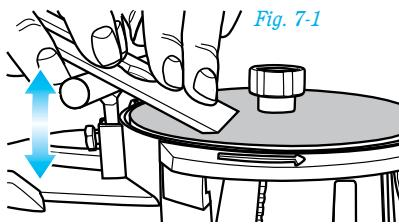

Fig. 7-1
**See fig. 7-1.** Check the Tool Rest for level by using a common level. Once you have located the desired height and level of the tool, tighten the 2 thumbscrews to secure the Tool Rest. Do not over-tighten.